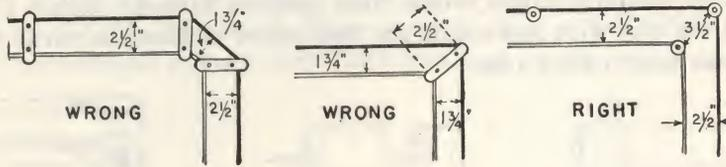

Fig. 12-4. Make sure wires are properly separated at corners.
**Miscellaneous Details of Installation:** Each wire must be supported by insulators at least once every  $4\frac{1}{2}$  ft. When making right angle turns in wiring, watch spacing carefully; see Fig. 12-4. When boring holes for por-